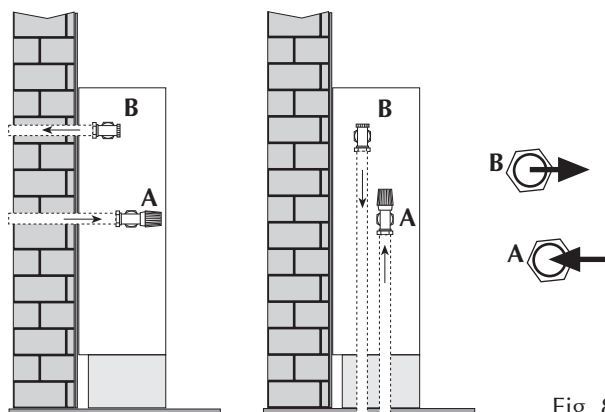

Fig. 8
- Effettuare i collegamenti idraulici (fig. 8).
- Make water connections (fig. 8). The position and diameter of water connectors are given in the dimensional data. Insulation of water lines is recommended. Install the condensate water collection tray (optional accessory) to prevent dripping during cooling operation. Size and arrange the condensate drain system in such a way as to ensure a gradient of at least 1%. If drainage is emptied into the sewerage system, fit a siphon to prevent the return of unpleasant odours into the room.
- Effectuer les raccordements hydrauliques (fig. 8).
- Die Wasseranschlüsse ausführen (Abb. 8).